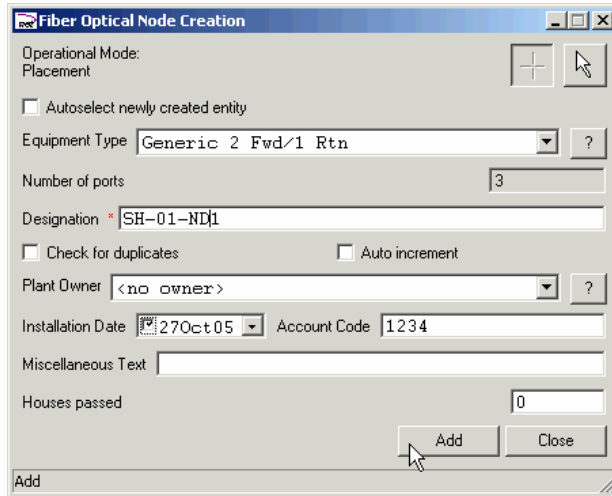

Figure 97 – HFC Optical Node Creation Dialog Box
3. Ensure that the “Placement” cross hair is selected in the **Optical Node Creation** Dialog Box, as shown in Figure 97, above, and also here: